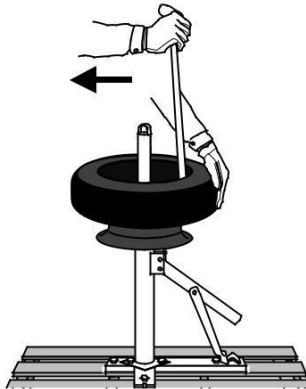

Figure 12
18. Once bead on outer side of tire is separated from rim, pull tire up with free hand and push Bar down so it is against bead on inner rim. See Figure 12, below.